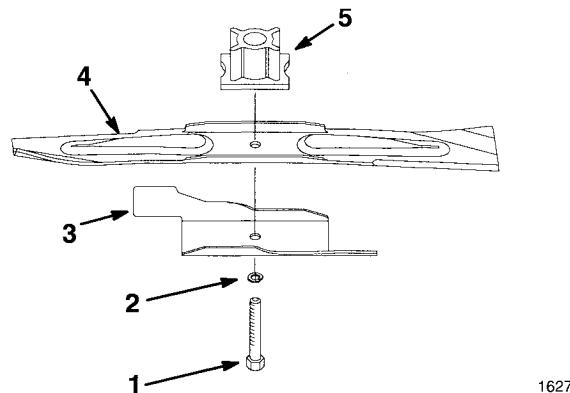

Figure 35
5. REMOVING BLADE—Grasp end of blade using a rag or thickly padded glove. Remove blade bolt, lockwasher, blade accelerator, blade and retainer (Fig. 35).